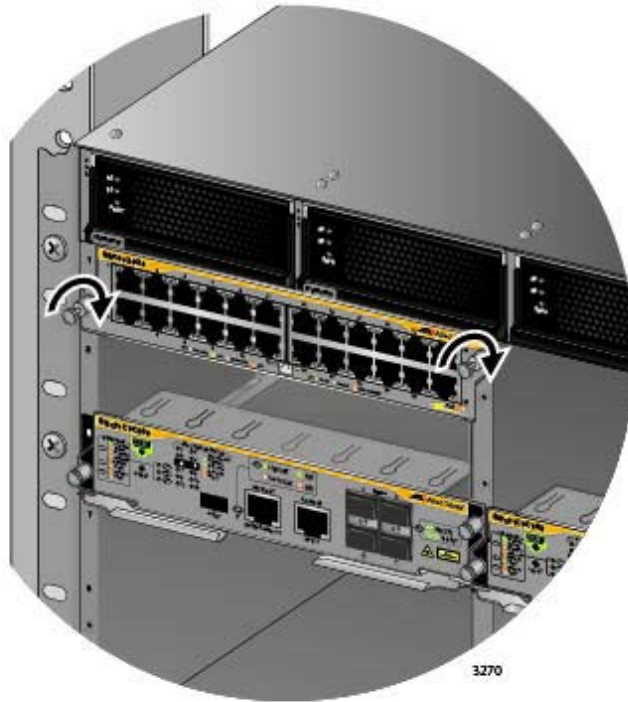

Figure 75. Tightening the Thumb Screws on an Ethernet Line Card
7. Finger tighten the two thumbscrews on the sides of the line card to secure it to the chassis, as shown in Figure 75 on page 137.